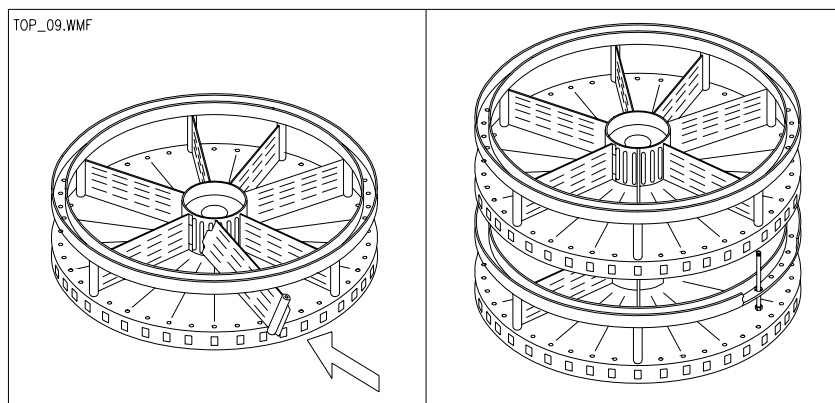

FIG. 9
- 3) To add dividers, locate in the central hub of the drum FIG. 9.
- 4) Rotate the drum below the one being modified to align the large diameter hole in its upper ring with the locating hole for the divider being fixed FIG. 9.